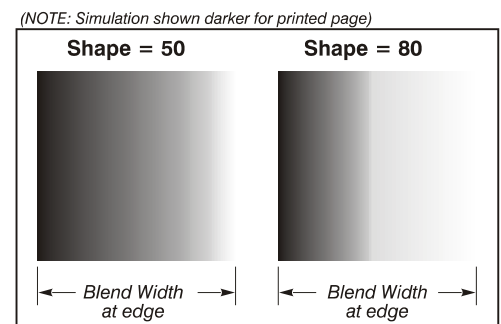

Figure 3.20. “Shape” Examples
- **Blend Shape** determines the rate of roll-off across the blend width, i.e. how quickly the white levels across the blend change from light and dark. Increasing the *Blend Shape* setting accelerates the rate of change at both extremes so that *less* of the region appears mid-gray (see Figure 3.20). Decreasing the *Blend Shape* setting slows the rate of change so that *more* of the region appears mid-gray. For most applications, this subtle control is best left close to 50.